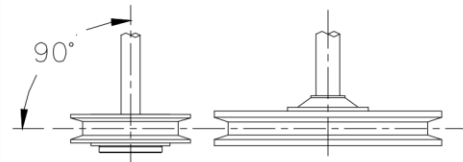

Figure 16
4. To align belt, lay a straight edge against the face of the compressor sheave (flywheel) touching the rim at two places. (Figure 16)